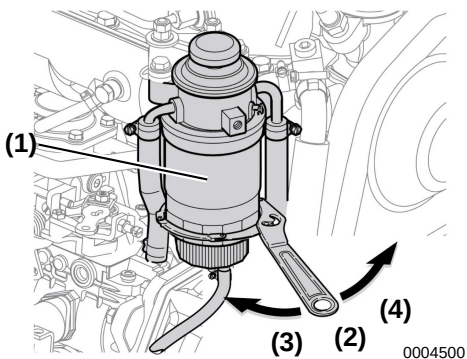

Figure 14
- 6. Remove the filter housing **(Figure 14, (1))** with a filter wrench **(Figure 14, (2))**.